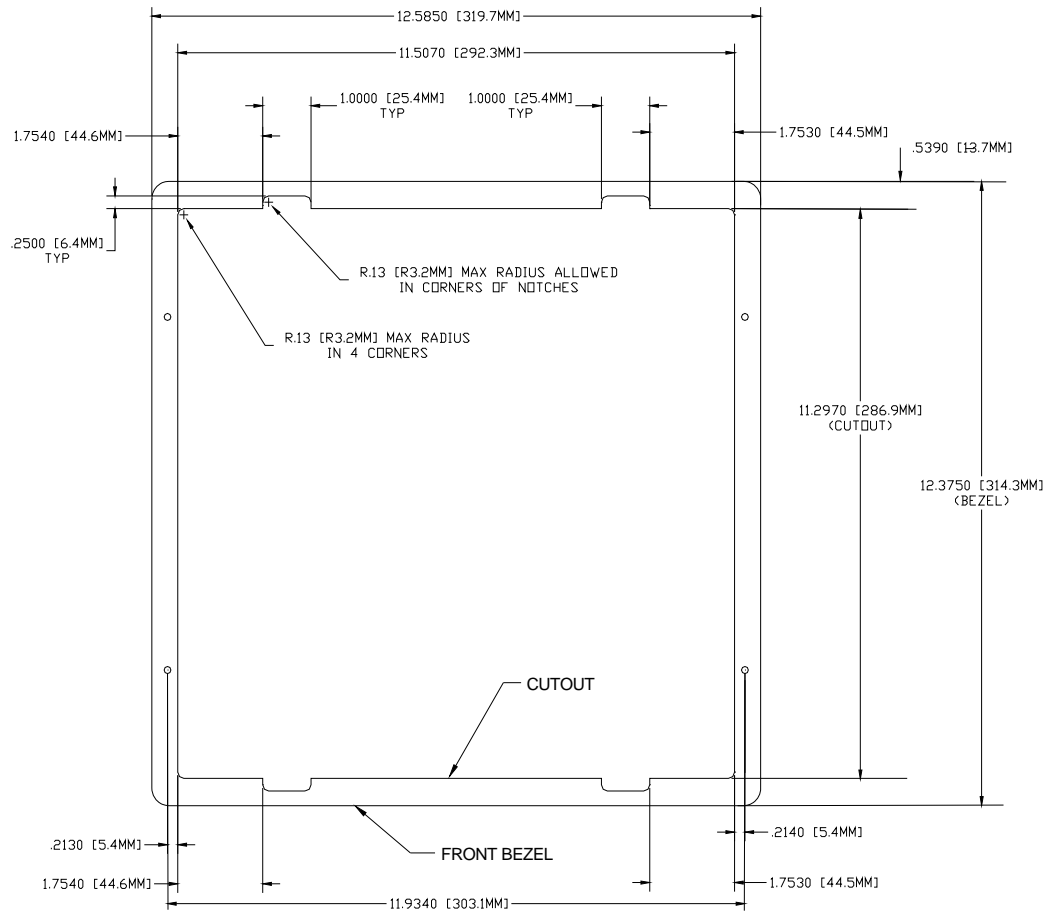

FIG. 39 NXD-1200V 12-inch Wall Mount panel dimensions using expansion clips
2. Cut out the surface for the **12-inch Wall Mount** using the dimensions shown in FIG. 39. Be sure to cut out the four notches along the top and bottom areas to accommodate the four drywall expansion clips (provided).